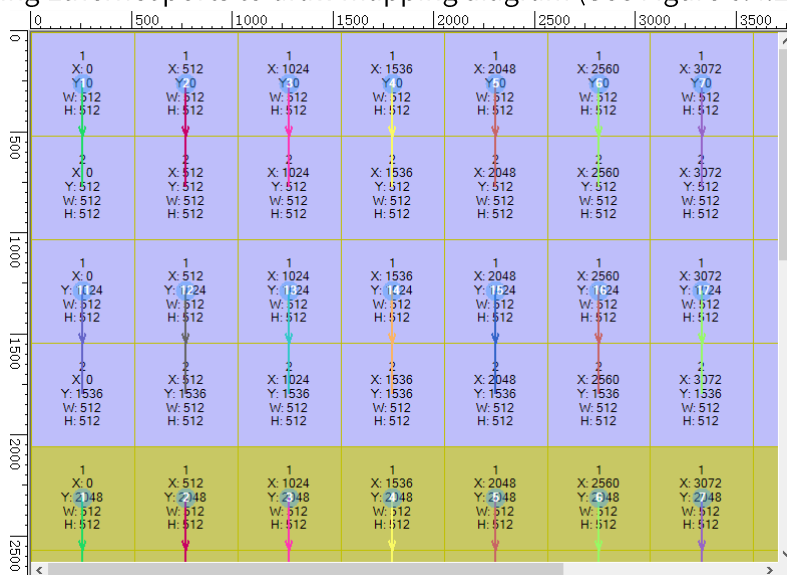

Fig 6.4.2.1 Mapping diagram
Step 1: Select sender' s port according to actual cabinets, select  , set the position, count, size, and selected style of the receiver cards that are connected to corresponding Ethernet ports to draw mapping diagram (See Figure 6.4.2.1 below).